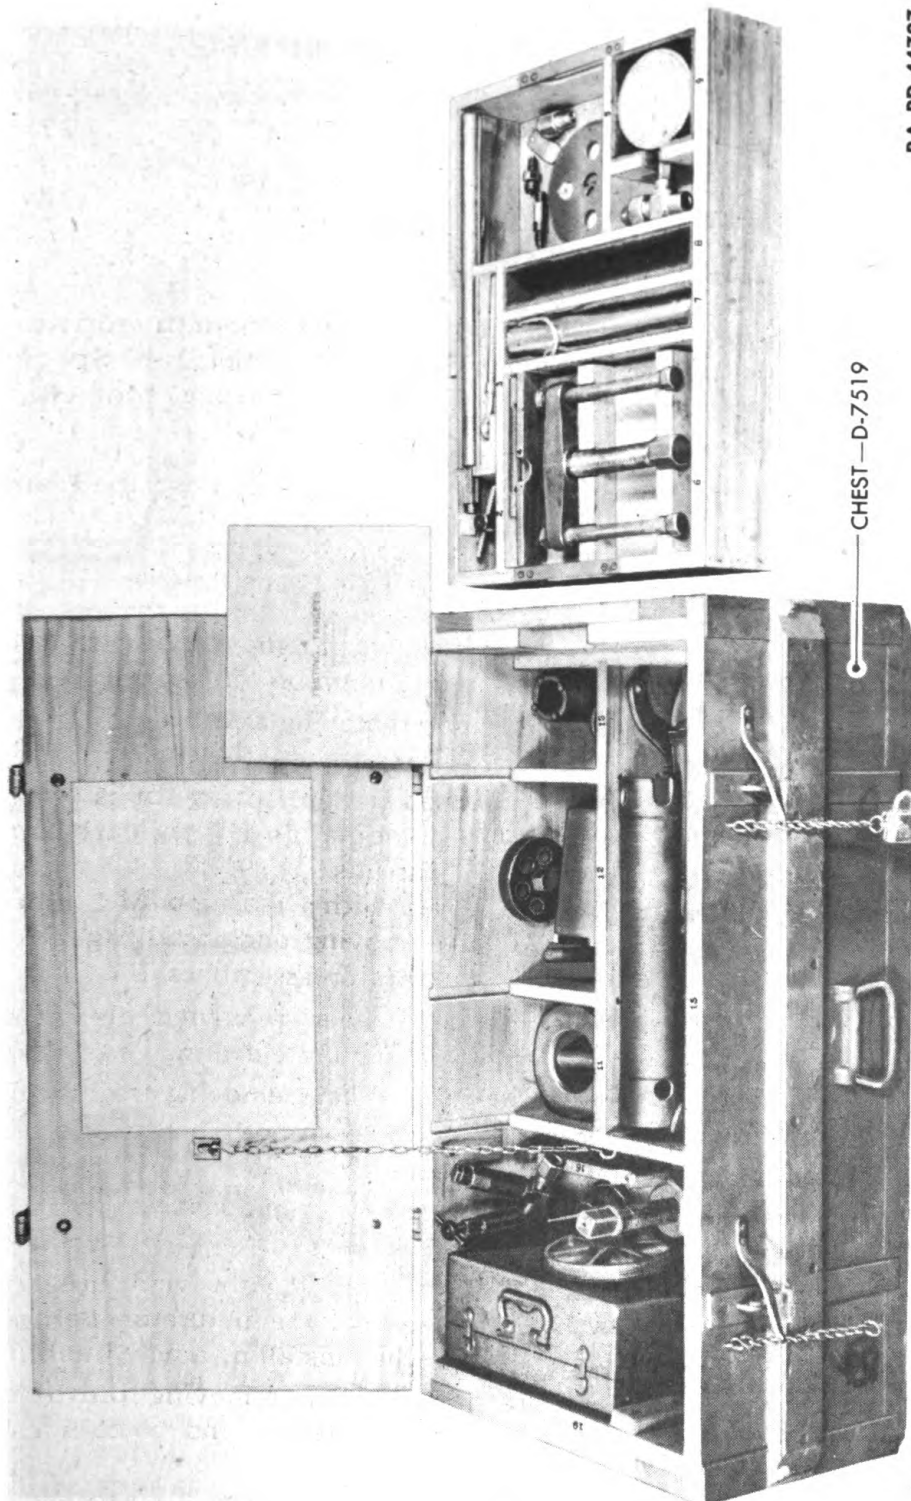

Figure 15—Special Repair Tools with Chest
a. Special repair tools for maintenance of the 155-mm gun and 8-inch howitzer materiel are listed in SNL D-14, section I b. Special repair tools for this materiel are carried in special repair tool chest D7519 (fig. 15).